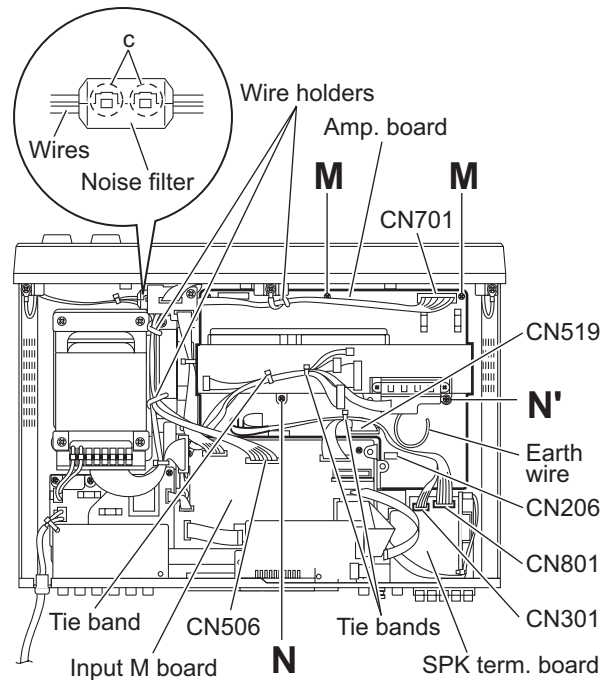

Fig.12
3.1.12 Removing the amp. board (See Fig. 12)